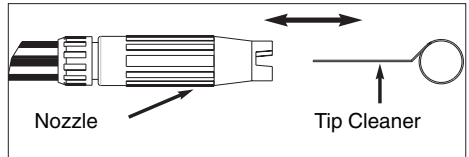

Figure 5 - Insert tip cleaner in nozzle hole and move back and forth until debris is dislodged.
- Using included tip cleaner, or an unfolded paper clip, insert wire into the nozzle hole and move back and forth until debris is dislodged (See Figure 5).